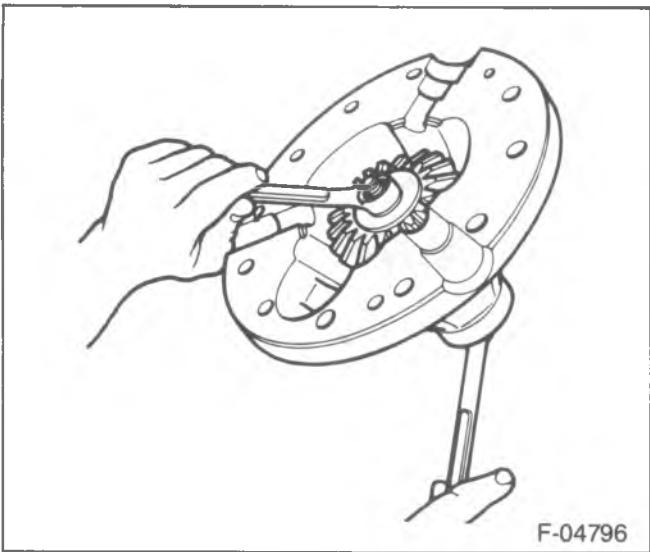

Figure 202—Clamping the Cam-Unit In Place
1. Install the cam-unit and thrust washer (36) to the right case half.
2. Clamp the cam-unit in place using a set of washers, nut, and a bolt long enough to hold the cam-unit in place (figure 202).
2. Assemble the guide clips (47) to the plates.
3. Install the thrust washer (45), lock plate assembly (44), and left side gear to the differential.
4. Clamp the side gear in place using a set of washers, a nut, and a bolt long enough to hold the side gear in place (figure 202).